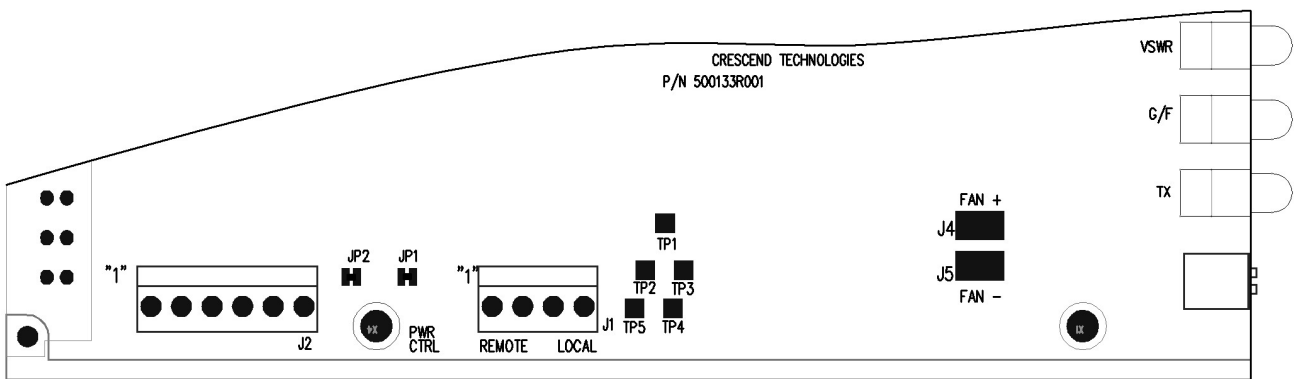

Fig. 3
- Jumper JP1 and/or JP2 in DC Control Board is cut, if LED indication at the front panel is not desirable – see Fig.3;